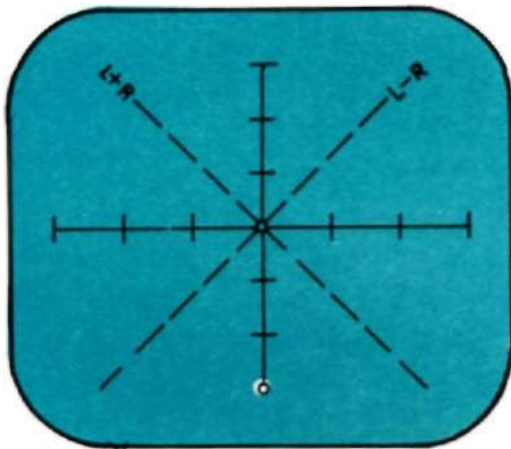

Figure 17. Trace Dot Positioned at Bottom Center of Vertical Scale.
4. Adjust the VERTICAL POSITION front panel control until the trace dot is positioned at the bottom center of the vertical scale (See Figure 17.)